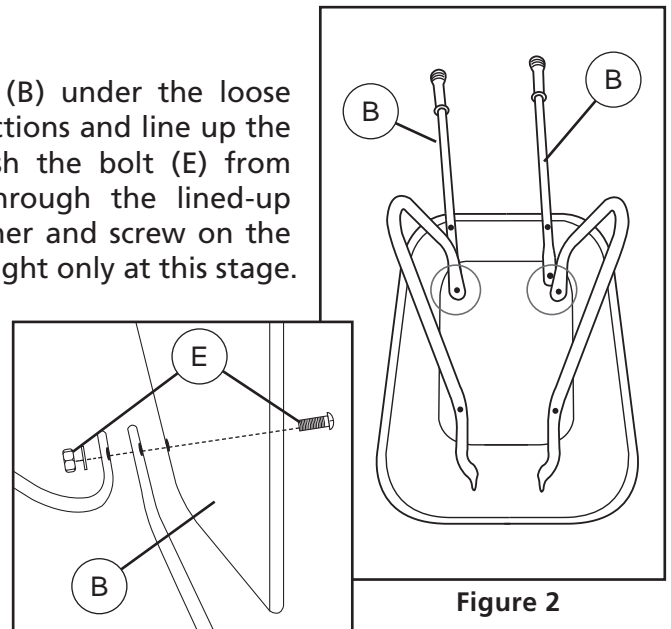

Figure 2
2. Slide the handles (B) under the loose ends of the leg sections and line up the holes (Fig. 2). Push the bolt (E) from inside the pan through the lined-up holes, fit the washer and screw on the nylon nut, finger-tight only at this stage.